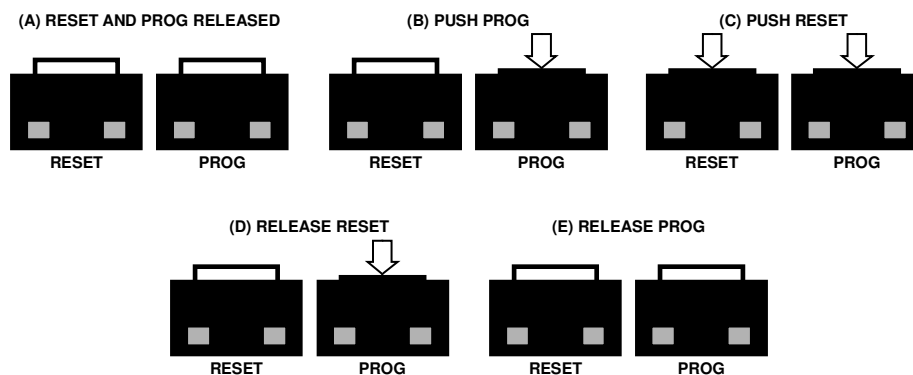

Figure 2. Entering Serial Download Mode to Reprogram the Board
To enter serial download mode, the user must hold the P0.0/BM pin low while reset is toggled. On the development board, serial download mode can be easily initiated by holding down the serial download push-button (PROG) while inserting and releasing the reset button (RESET), as illustrated in Figure 2.
6. In the ARMWSD window, click **Start**. The Status frame then prompts users to **Press Download and pulse Reset on Hardware**. Follow the illustrations in Figure 2.